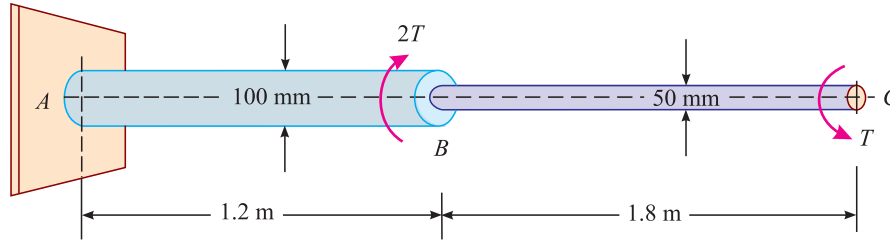

Fig. 27.4
EXAMPLE 27.19. The stepped steel shaft shown in Fig. 27.4 is subjected to a torque (T) at the free end, and a torque ($2T$) in the opposite direction at the junction of the two sizes.